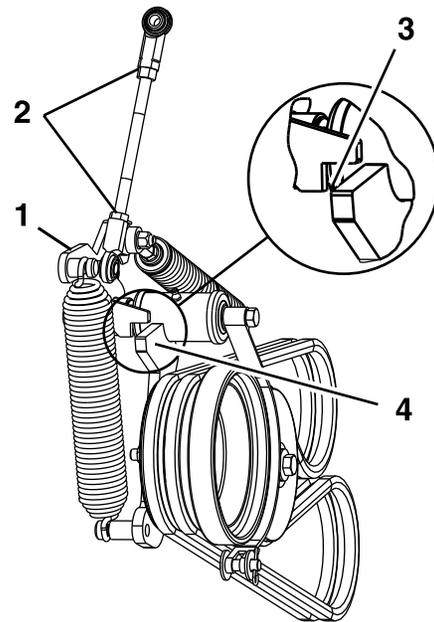

**Figure 57**
6. Loosen belt guides **A** and **B** (Figure 57).
8. Route the new belts onto the pulleys as shown in Figure 57.